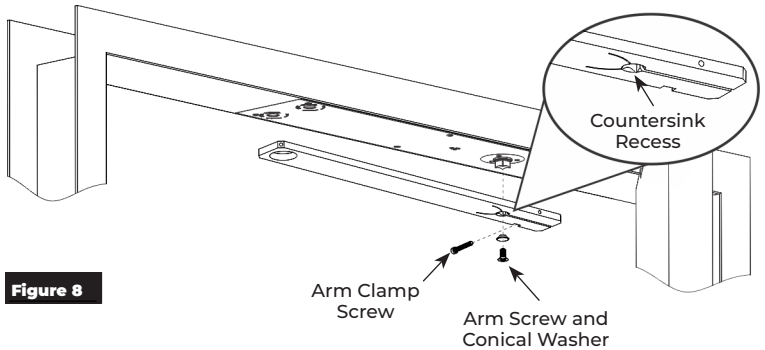

Figure 8
1. Attach arm to closer shaft using a T30 Security Torx bit and 1/4-20 x 3/4-FHMS-TORX w/Nylon Patch screw and washer. Tighten securely. (Figure 8)
2. Insert 10-24 x 1-1/2" socket head cap screw into arm and clamp arm tightly to pinion square. (Figure 8)